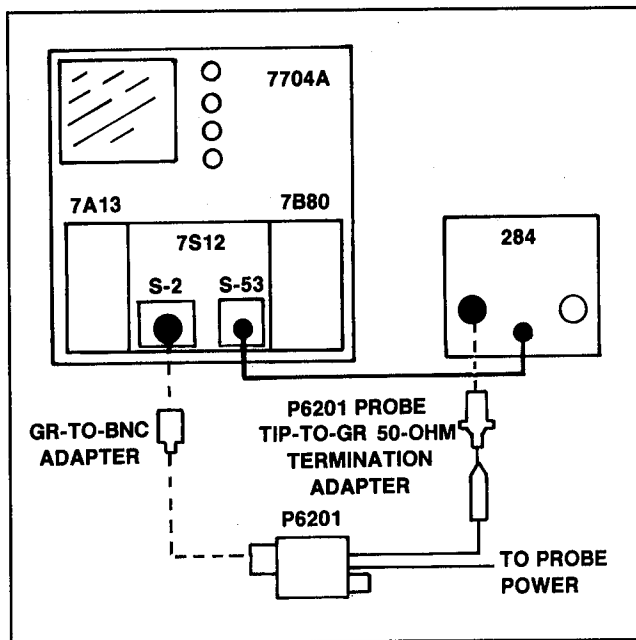

Fig. 5-2. Setup for testing with sampling oscilloscope.
a. Connect the P6201 and equipment as shown in Fig. 5-2.
a. Connect the equipment as shown in Fig. 5-2.